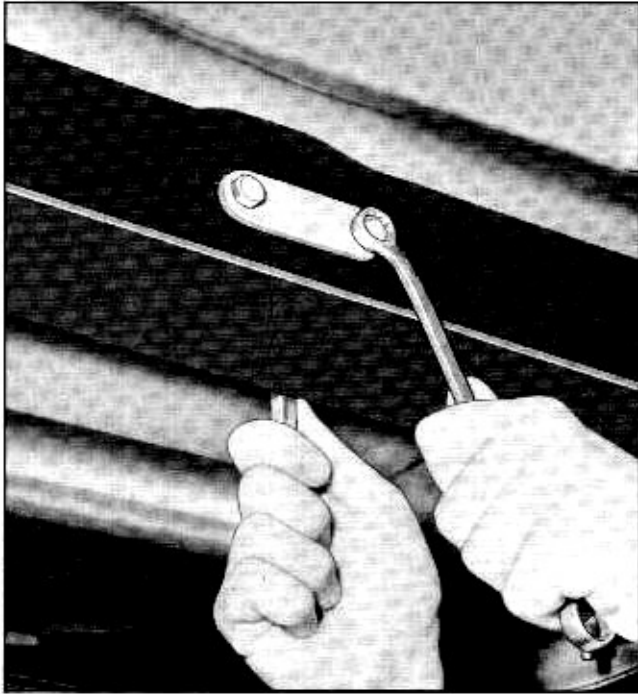

Fig. 4-10 Removing Propeller Shaft Damper Bearing Bolts
1. Remove bolts retaining propeller shaft damper bearings (Fig. 4-10).